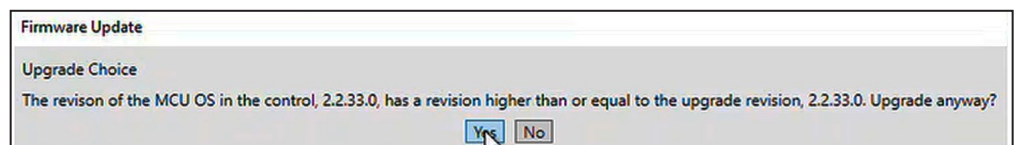

Figure 34. The MCU OS revision dialog box.
STEP 16. The Firmware Update dialog box may ask about the MCU OS revision. Click on the **Yes** button if this is seen. See Figure 34.